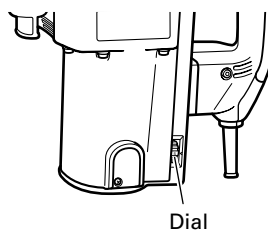

Fig. 3
- (3) To remove the tool, fully pull the grip in the direction of the arrow and pull out the tool.
7. Regulating the number of rotations and hammering (Fig. 3)